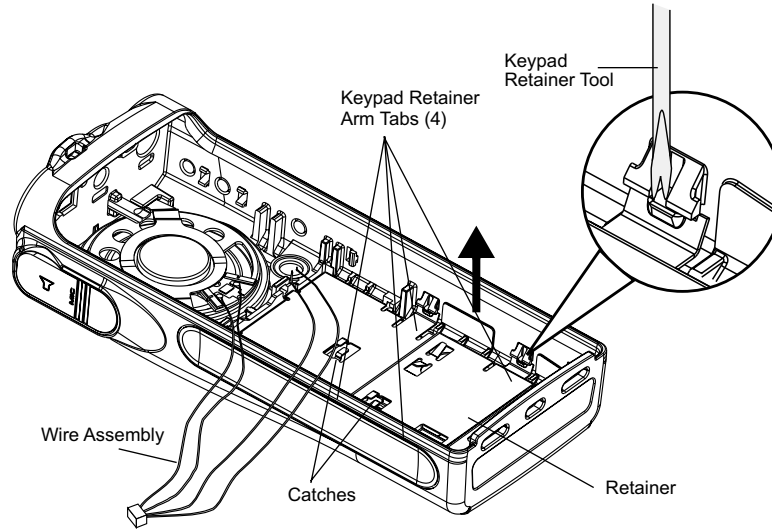

Figure 4-6 Remove Retainer
1. If the disassembly of the keypad printed circuit board is required, open the catches on the keypad retainer and lift the wire assembly up. (See Figure 4-6.)